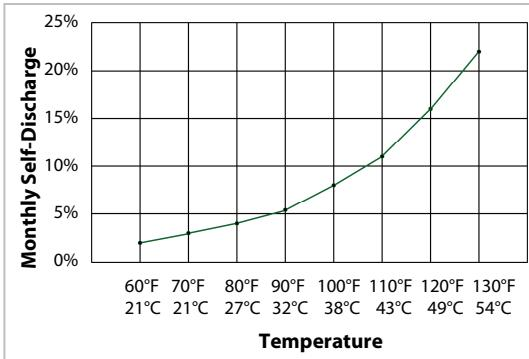

Figure 3 Self-Discharge Effects
- The EnergyCell RE battery comes fully charged, but will discharge itself over time. Higher storage temperatures increase the rate of self-discharge. Figure 3 compares self-discharge with temperatures.